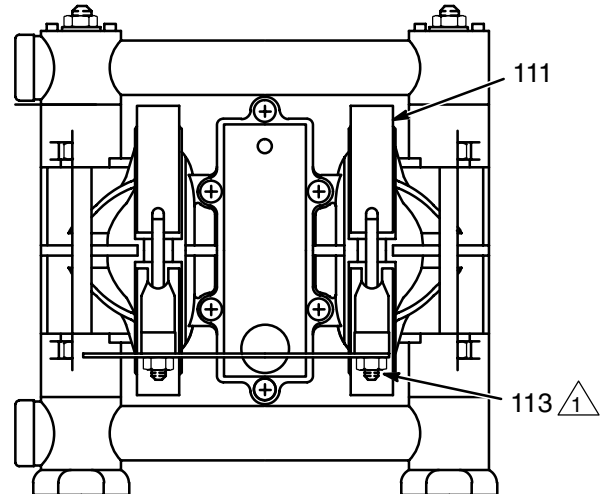

Fig. 9
When tightening the clamps (111), apply thread lubricant to the bolts and **be sure** to torque the nuts (113) to 50 to 60 in-lb (5.6 to 6.8 N·m). See Fig. 9.